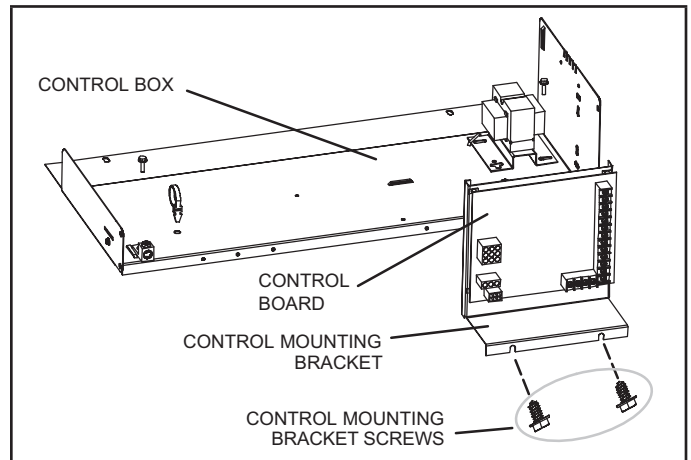

FIGURE 1. Air Handler Control Removal and Installation
- 4 - Once all connections have been transferred to the new control. Remove the old control by removing the two screws securing the control mounting bracket to the control box (see figure 1). Also see Field Control Wiring on page 4.
IMPORTANT: Control board must be installed in proper orientation for all wiring to reconnect to the control board. Please refer to Figure 1 diagram above for control board orientation. Same orientation whether unit is configured for upflow, downflow, horizontal right or horizontal left.